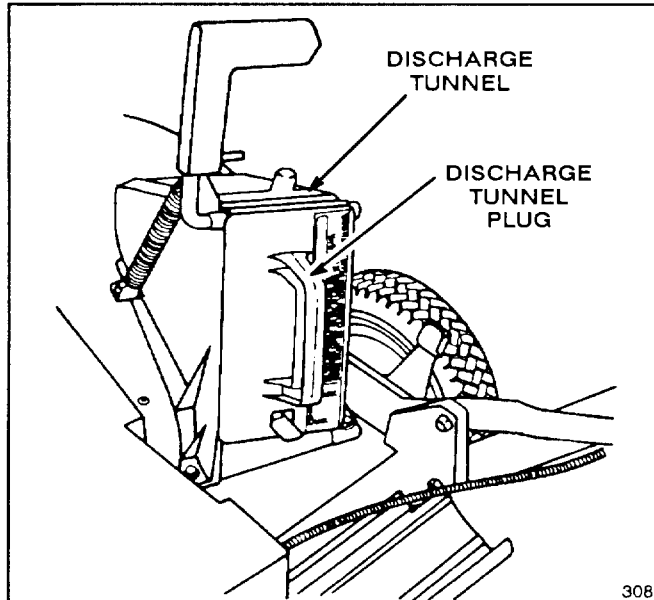

Figure 21
1. Rear Bagging Kit, Model No. 59174—Install discharge tunnel and rear mounting grass bag to convert Recycler® mower to a rear bagging mower (Fig. 21). Includes discharge tunnel plug.